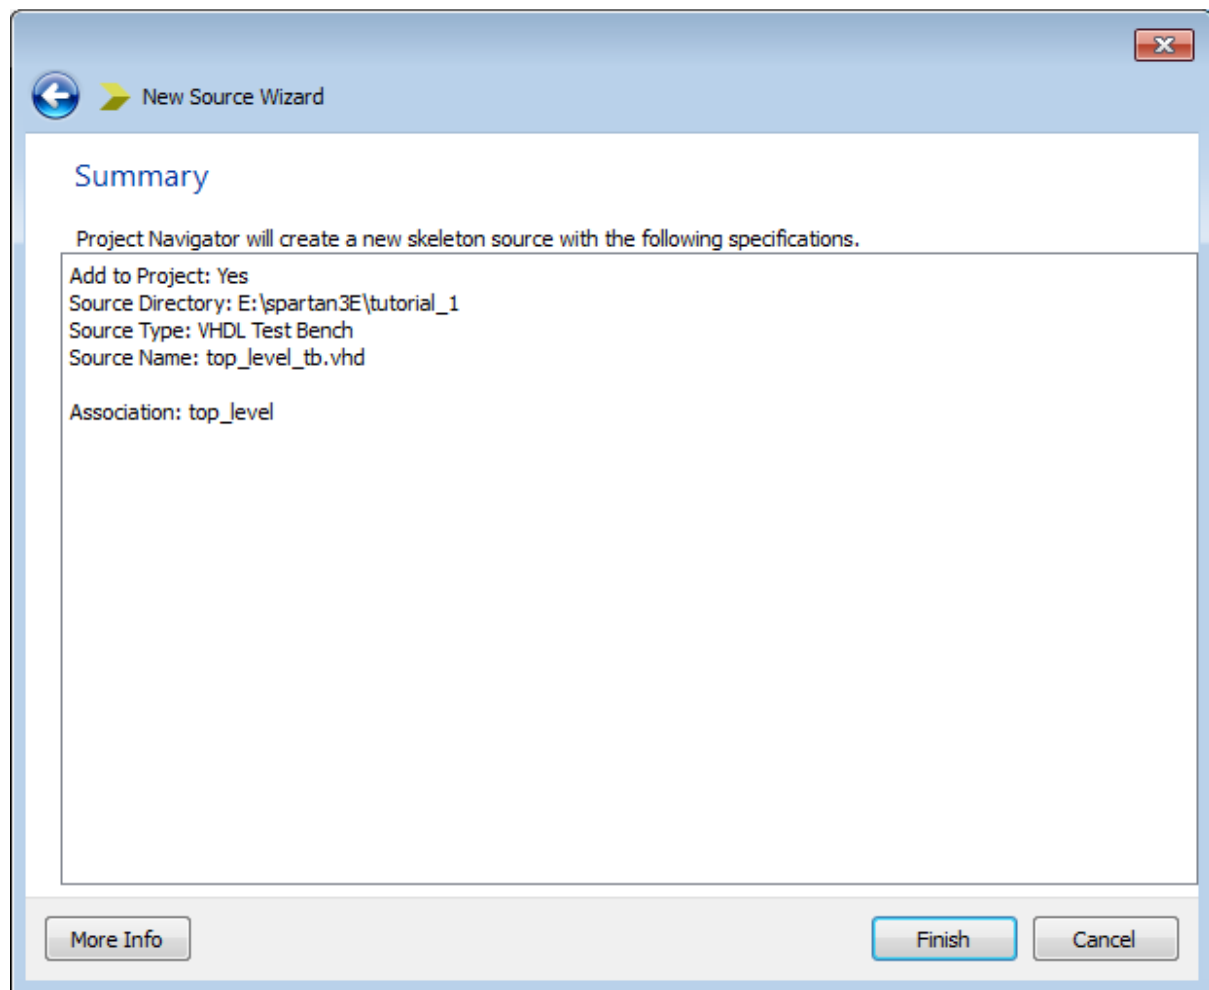

Figure 4.3: New Source Wizard, Summary window.
3. The **Summary** window shown in Figure 4.3 will appear. Click **Finish**.